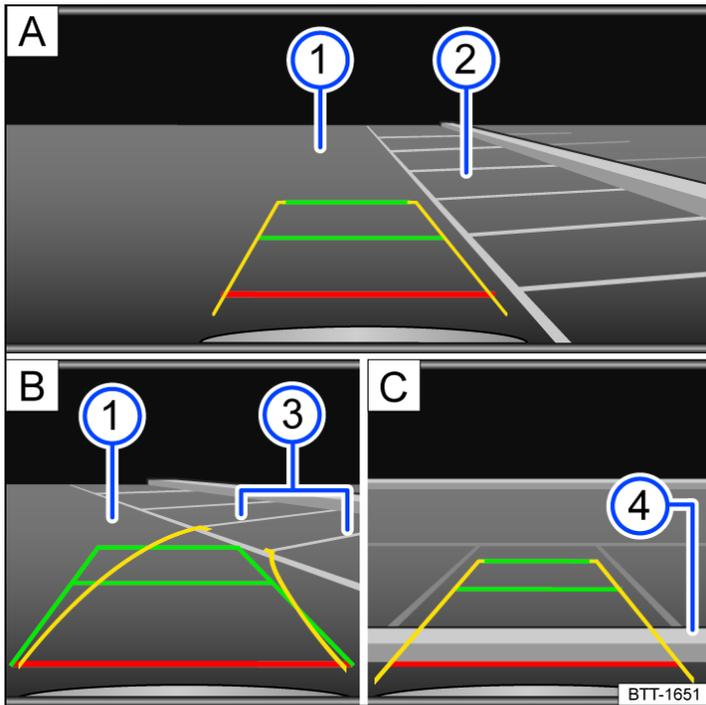

Fig. 1 Infotainment system: Parking perpendicular to the road.
- ① Road surface.
- ② Parking space.
- ③ Side boundary of the parking space.
- ④ Rear boundary of the parking space.
3. Position your vehicle in front of the parking space → *fig. 1* Ⓐ ②.
4. Steer so that the yellow lines lead into the parking space. The green and yellow lines must align with the side boundary lines → *fig. 1* Ⓑ ③.
5. Stop when the red line reaches the rear boundary → *fig. 1* Ⓒ ④.